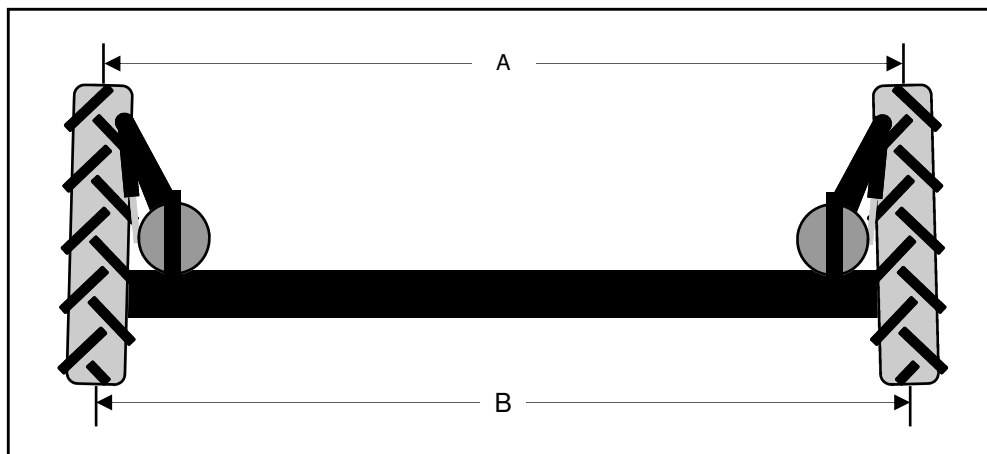

FIG 79-3
4. Move left and right tires evenly until difference in dimension "A" and "B" (fig. 79-3) are within specified range.